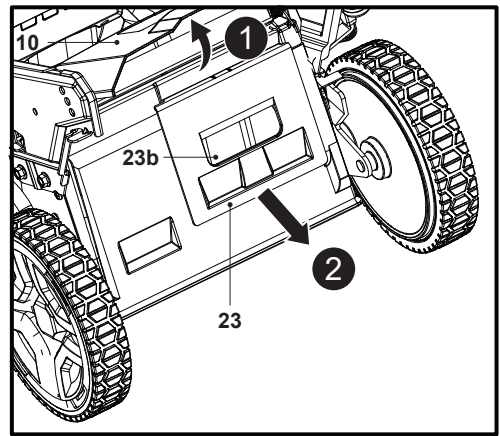

Fig. 15
2. Hold the recess handle (23b) and pull the mulching insert (23) out of the rear discharge chute (21), then remove the mulching insert (23) (Fig. 15).